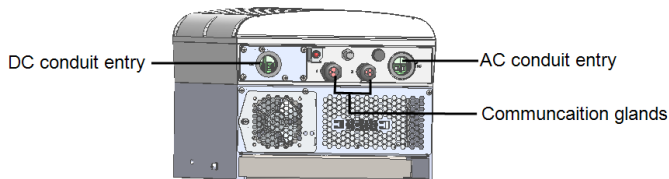

Figure 46: Primary Unit interface
1. Connect the DC, as follows, see *Figure 46*: